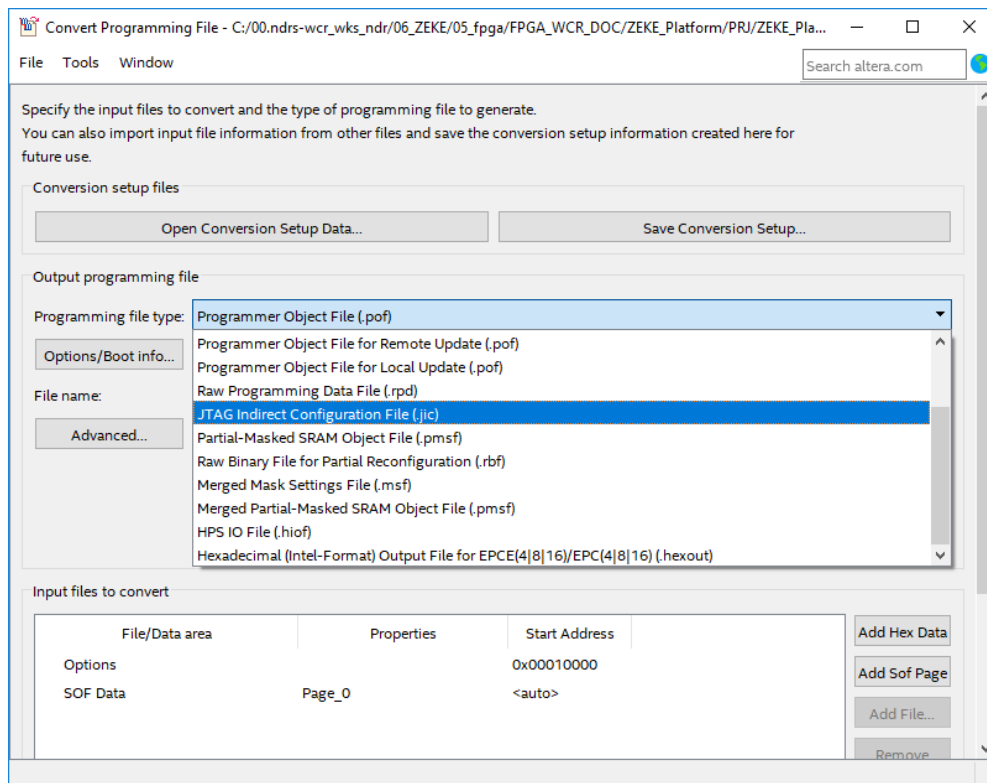

Figure 47 : Programming File Type
2. Change Programming file type to JIC file as shown in the Figure 47.